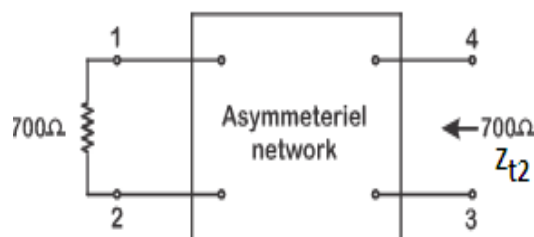

Fig.1.8 (b) Calculation of  $Z_{t2}$
- ❖ For example, the impedance looking into terminals 1, 2 of Fig.1.8 (a) is  $300\Omega$ , when terminals 3 and 4 are terminated in  $300\Omega$